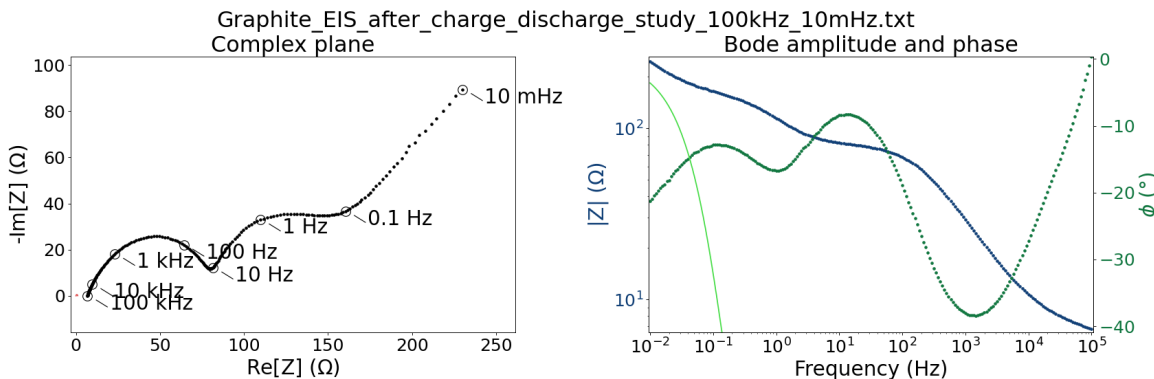

Figure 22: Impedance spectrum of a lithium|graphite half-cell.
3. Because the spectrum is quite complex, it is useful to get an impression of the characteristic frequencies of the features. Selecting **Plot>Mark frequencies that are integer powers of 10** results in Figure 22.